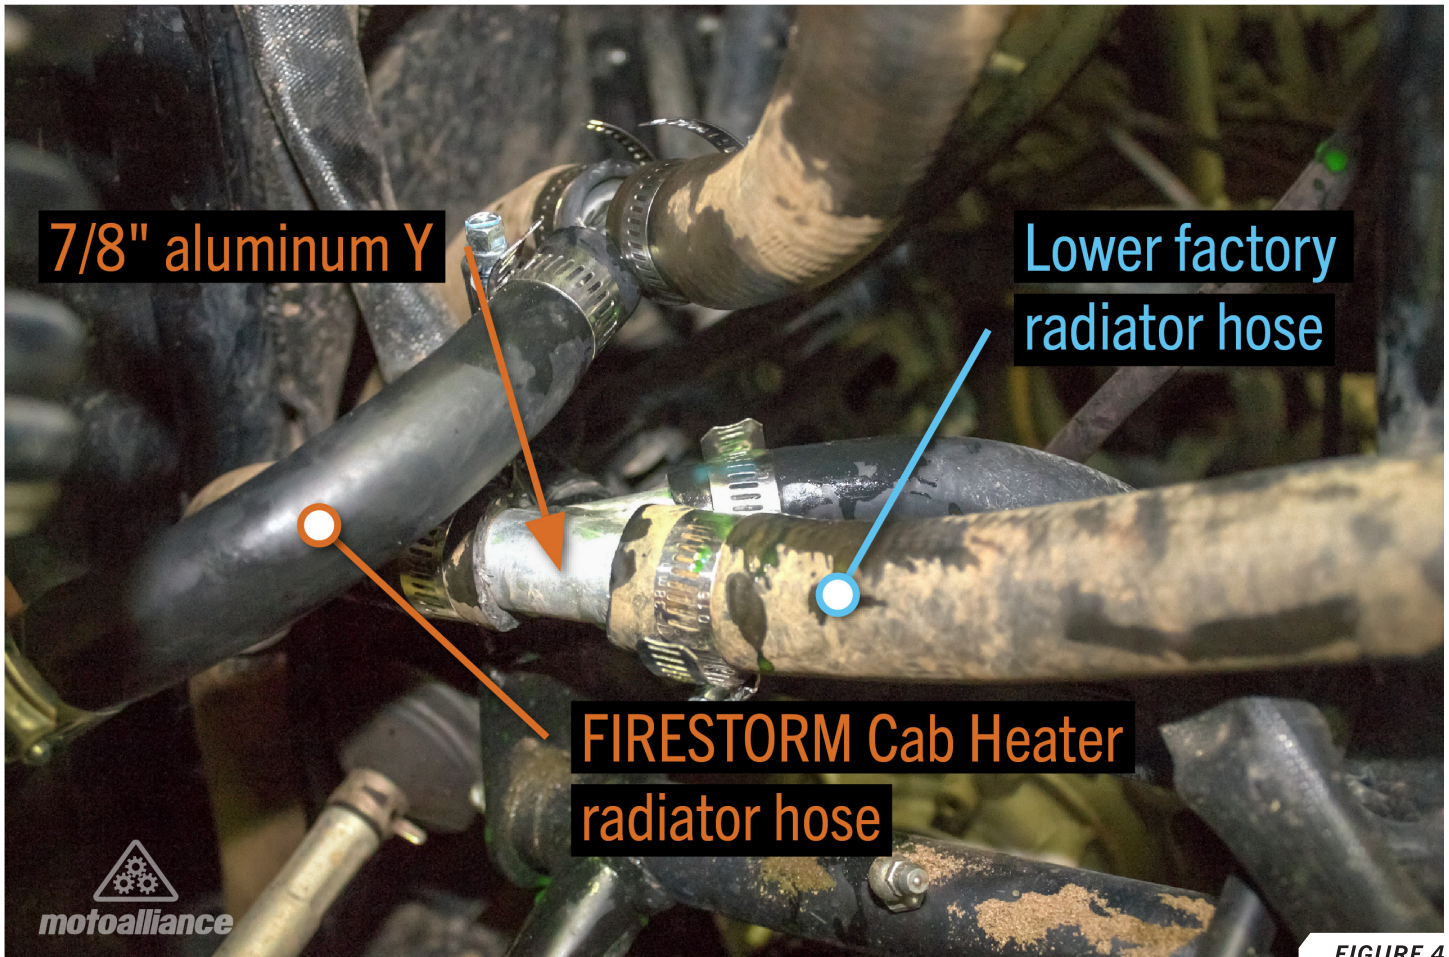

FIGURE 4
16. Locate a flat, level section on the lower factory radiator hose for the $\frac{7}{8}$ " aluminum Y. Cut the hose and insert the Y with the branch facing the rear of the machine. Secure using #16 hose clamps. **FIGURE 4**
17. Run the second 5' radiator hose section to the branch of the aluminum Y, cut any excess hose, then secure using a #10 hose clamp. **FIGURE 4**